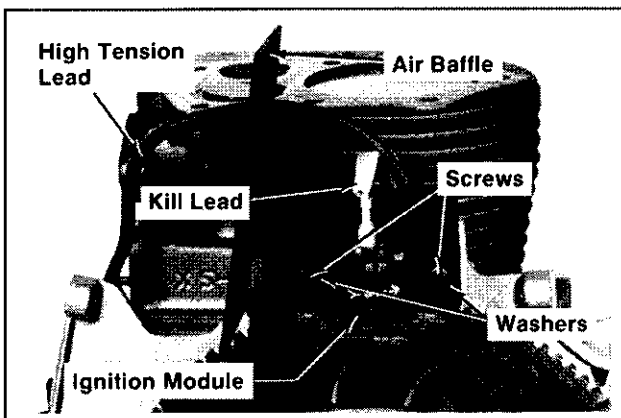

Figure 8-4. Removing Ignition Module.
1. Remove the high-tension lead and kill lead from slots in air baffle. Remove the kill lead from kill terminal of module. Refer to Figure 8-4.